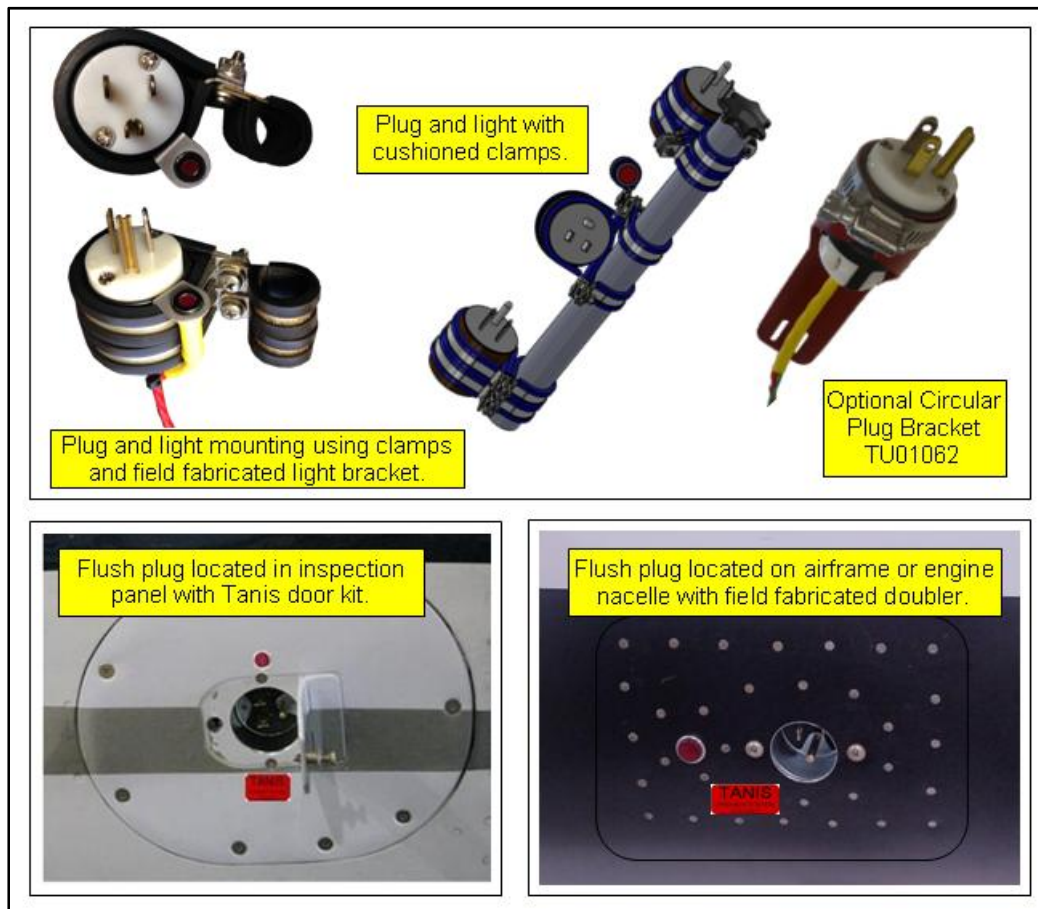

Figure 2 - Examples of plug mounting. Top pictures depict shore plug supplied with kit, bottom two pictures optional flush plugs configurations.
- b. *Optional indicator light - if used - locate in viewable location and secure in place with cushioned clamp, cable ties or other acceptable means (Figure 2).